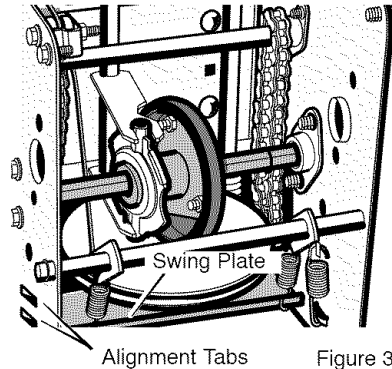

Figure 31
**plate** is properly secured (see Figure 31).